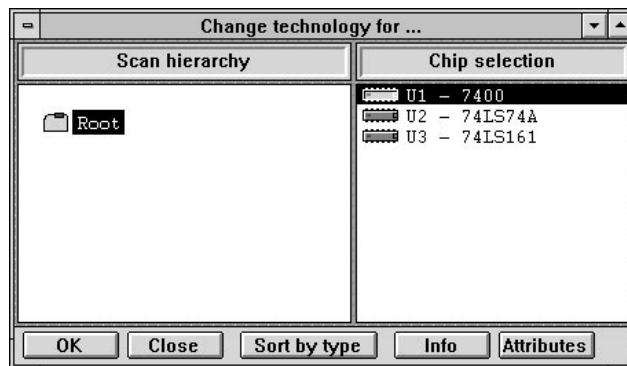

Figure 1-33. Change Technology Window.
9. Click on the **Patching** menu and select **Change Technology**. In response, ACTIVE-CAD displays Figure 1-33.